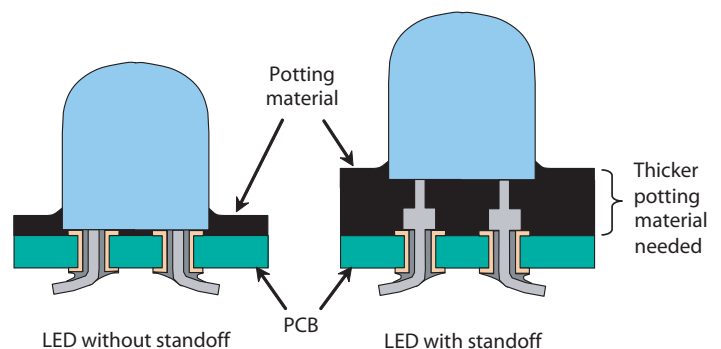

Figure 2. Thicker potting material may be needed for LEDs with standoff
- 1) Potting material. For outdoor sign applications, potting material on the outer side of the PCB is necessary to protect the electronic components. As the standoff lifts the LED body, more potting material is required, compared to LEDs without standoff as shown in Figure 2.
- 2) Less potting material. As shown in Figure 2, there is less usage of potting material needed to protect the electrical connections and components.